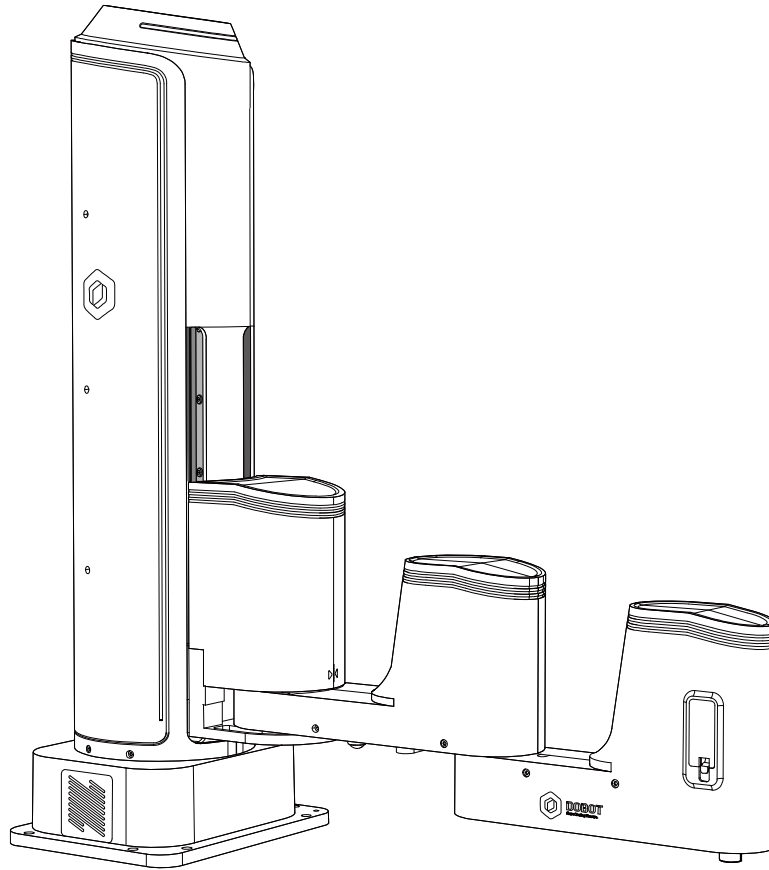

Figure 7.7 Location of Dobot M1 after Factory calibration
1. Make the Dobot M1 in the disabled state and jog the Dobot M1 by hand to make it to the bottom of Z-axis, as shown in Figure 7.7.